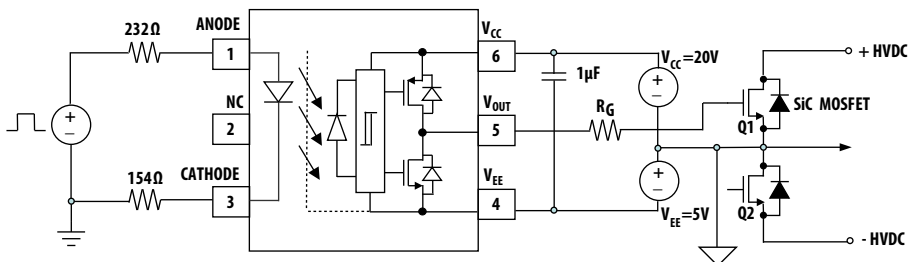

Figure 14. Recommended application circuit with split resistors LED drive.
The recommended application circuit shown in Figure 14 illustrates a typical gate drive implementation using the ACPL-P347/W347.
Step 1: Calculate R_G minimum from the I_{OL} peak specification. The SiC/GaN MOSFET and R_G in Figure 14 can be analyzed as a simple RC circuit with a voltage supplied by ACPL-P347/W347.
The ACPL-P347/W347 includes a Propagation Delay Difference (PDD) specification intended to help designers minimize “dead time” in their power inverter designs. Dead time is the time period during which both the high and low side power transistors (Q1 and Q2 in Figure 14) are off. Any overlap in Q1 and Q2 conduction will result in large currents flowing through the power devices between the high and low voltage motor rails.